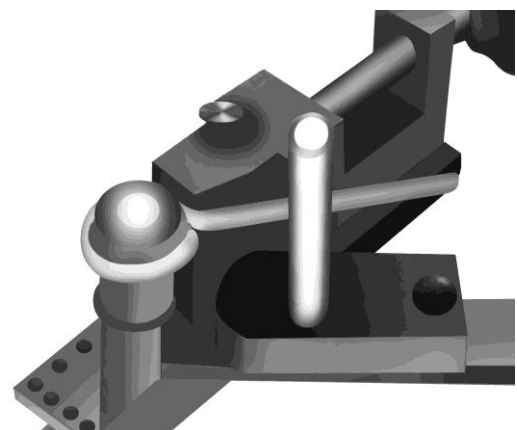

Figure 5
11. Move the handle counterclockwise until it meets the bender, as shown in figure 5.